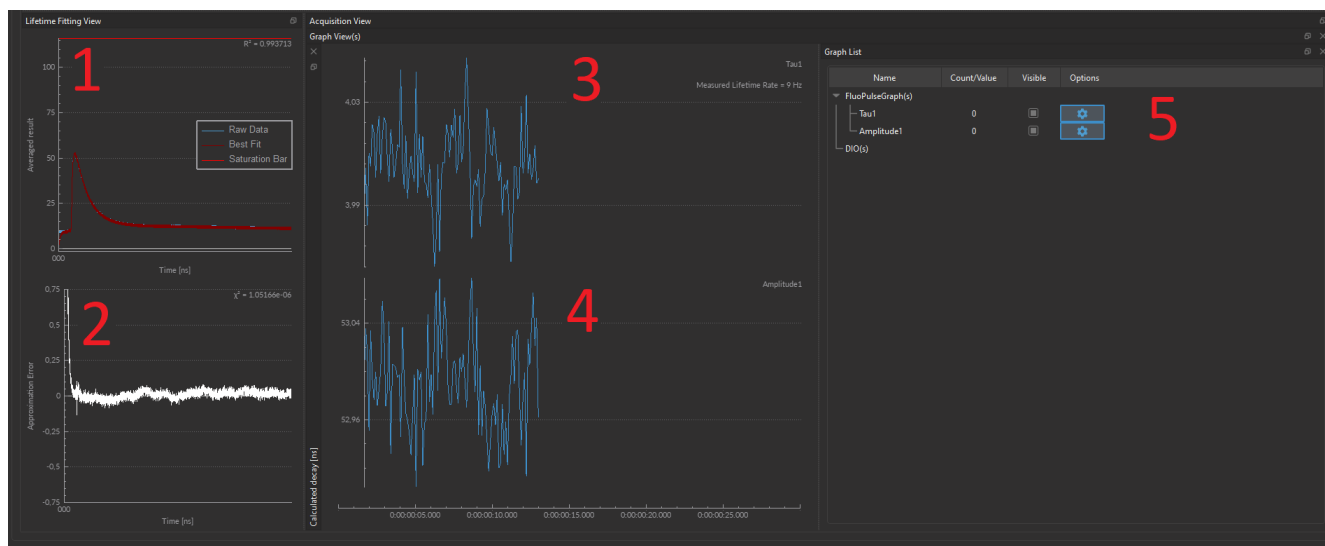

Figure 12.29: Acquisition View
The **Acquisition View** (Fig. 12.29) is split into separate divisions, each of which visualizes different types of data in the following sections:
1. **Waveform** (Fig. 12.29, 1): displays the signal obtained from the *FluoPulse™* Console. Lifetime measurement is based on this signal. Signal fit is the approximate signal calculated by the algorithm for a given model and for the calculated lifetime value. It is shown in the same graph, as well as the R^2 value of the fitted signal. The waveform needs to be below the red line not to be clipped i.e. saturated.
2. **Approximation error** (Fig. 12.29, 2): displays the difference between the measured and fitted signals. Approximation error is useful to monitor the error and assess how well the application fits the measured data and whether the fitting model is adequate. Approximation error, or residuals, must be random and up to 1% of the signal amplitude. If not, consider changing the sampling rate, number of waveforms per data-point or updating the IRF. This graph also contains the χ^2 parameter, which numerically quantifies the difference between these two signals.
3. **Lifetime** (Fig. 12.29, 3): shows lifetime measurements in real time. This is the main chart of *FluoPulse™* window. The real-time rate of the lifetime measurements is shown in the upper right corner of the graph.
4. **Amplitude** (Fig. 12.29, 4): displays maximum amplitude of each sampled waveform. This value is almost proportional to the fluorescence intensity of the captured back-scattered light. The amplitude is essential for assessing whether the processed signal is suitable for further processing. If the signal amplitude exceeds 116 units, the received signal is likely in saturation, and the calculated lifetime value is probably wrong. On the other hand, if the signal's amplitude is too small (in practice, around 40 units), the signal-to-noise ratio is too low and can result in an incorrect lifetime value. Through this graph, one can also monitor changes in the concentration of the fluorophore under test or some other parameter that directly affects the signal amplitude.
5. **Graph List** (Fig. 12.29, 5): governs how the data are displayed to the user. Here, one can change the labels, choose whether or not to display a specific channel, and choose the color of the graph. See Section 12.7.2 for more details.